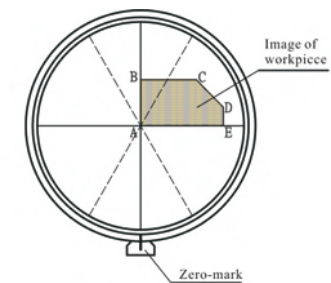

Fig.10 Two-dimensional measuring
- 7.2.2.3 Adjust the measuring edge to be parallel respectively with X axis and Y axis. See AE // X, AB // Y of the Fig. 10.